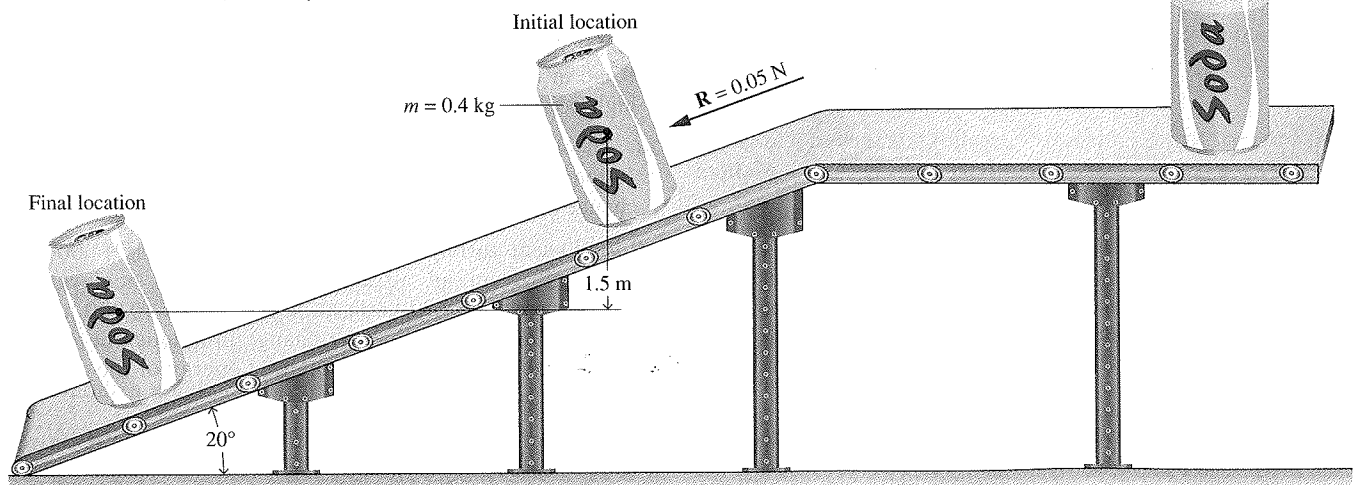

Fig. P2.15
- 2.15 During the packaging process, a can of soda of mass 0.4 kg moves down a surface inclined 20° relative to the horizontal, as shown in Fig. P2.15. The can is acted upon by a constant force \mathbf{R} parallel to the incline and by the force of gravity. The magnitude of the constant force \mathbf{R} is 0.05 N. Ignoring friction between the can and the inclined surface, determine the can's change in kinetic energy, in J, and whether it is *increasing* or *decreasing*. If friction between the can and the inclined surface were significant, what effect would that have on the value of the change in kinetic energy? Let $g = 9.8 \text{ m/s}^2$.